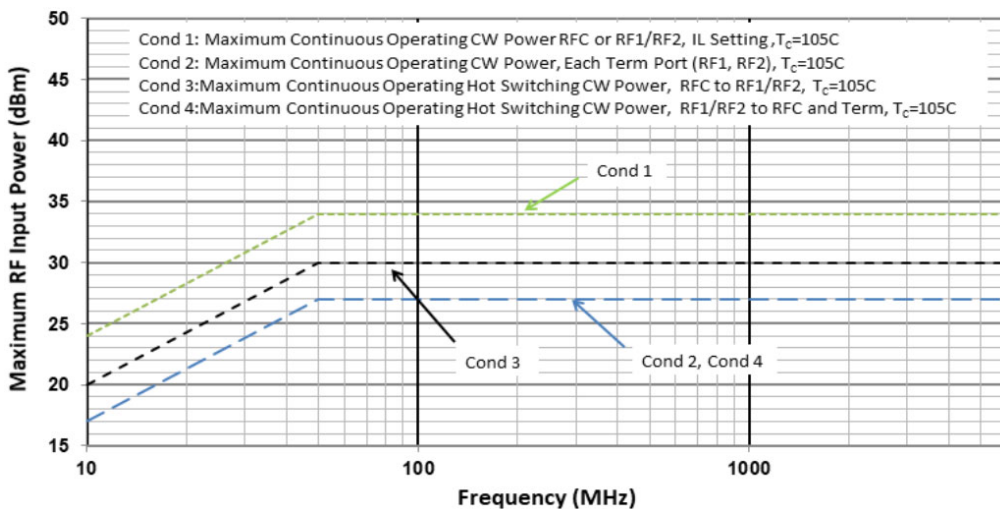

Figure 2. Maximum RF Input Operating Power vs. Frequency
- Levels based on: $V_{DD} = 3.1V$ to $5.25V$, $250MHz \leq F_{RF} \leq 6000MHz$, $Z_S = Z_L = 50\Omega$. See Figure 2 for power handling derating vs. RF frequency.